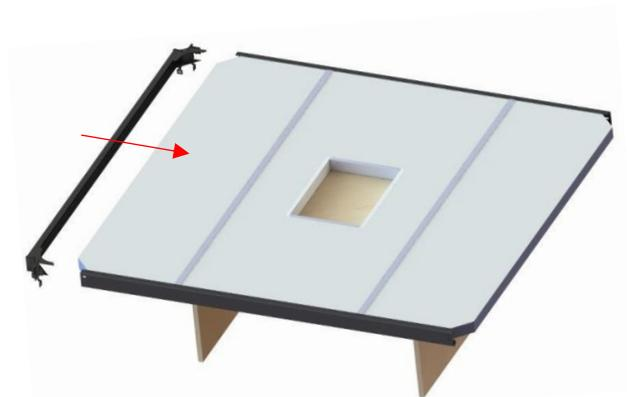

Figure 54
- 10) On one end of the cover, slide one corner brackets and C-channels assembly. (Figure 54) It is recommended to slightly engage the top flange before the bottom when sliding the C-Channel onto the foam panel.